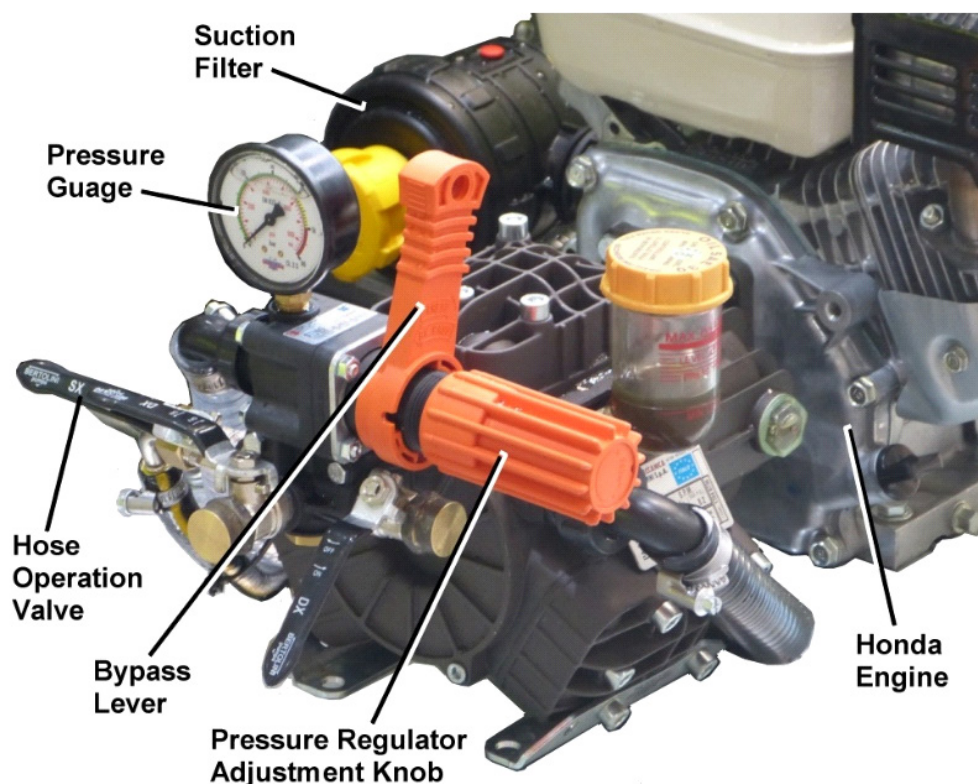

Figure 8 – Pump and Suction Filter (Single SuperReel version shown)
3. Unscrew the suction filter cover (refer to Figure 8) and remove the filter screen and gasket. Soak the filter screen in clean water, brushing carefully with a nozzle brush. When re-assembling, ensure the gasket is in position.